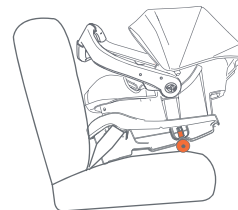

Fig. 60-2
- A rolled towel, folded towel or pool noodle may be placed at the back of the base for elevation (Fig. 60-2).